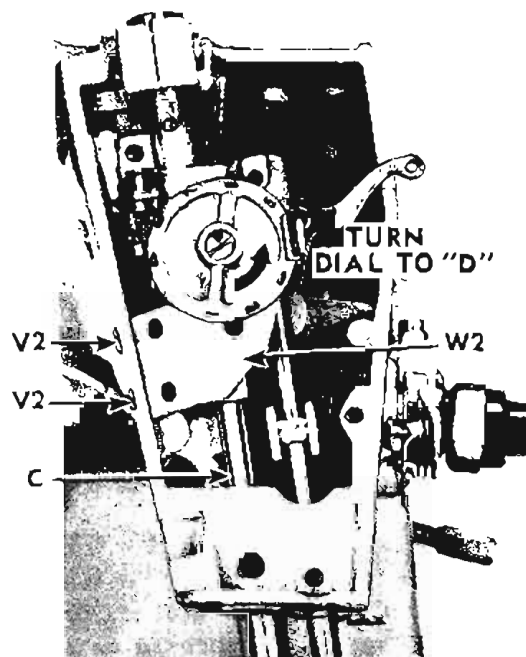

Fig. 47. Removing Pressure Regulating Dial
4. Remove two screws V2, Fig. 47 at left end of bracket W2 and remove pressure dial assembly.
3. With pressure dial set at "D", replace dial making certain that extension X2 is seated against outside cam surface of dial. Then fasten bracket W2 with two screws V2, Fig. 47.